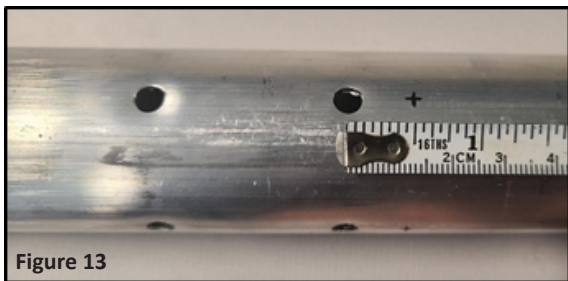

Figure 13
19. Locate the set of holes furthest to the right on the roller bar. They should be about 18.5" from the notched end. From the center of each hole, measure and mark 1/2" to the right. These marks will be the centers of the new holes. See **Figure 13**.